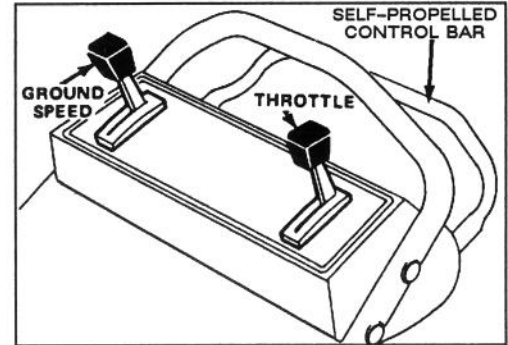

Figure 6
1. **CONTROLS**—Throttle, ground speed control, and blade/self-propelled control bar are on upper handle (Fig. 6). Recoil starter is on top of engine.
3. Move ground speed control to "N" (Fig. 6).
7. STOPPING (Fig. 6) — Release control bar to stop blade and traction drive. Move ground speed control to "N". To stop engine, move throttle to OFF. Pull wire off spark plug if mower will be unattended or not used.